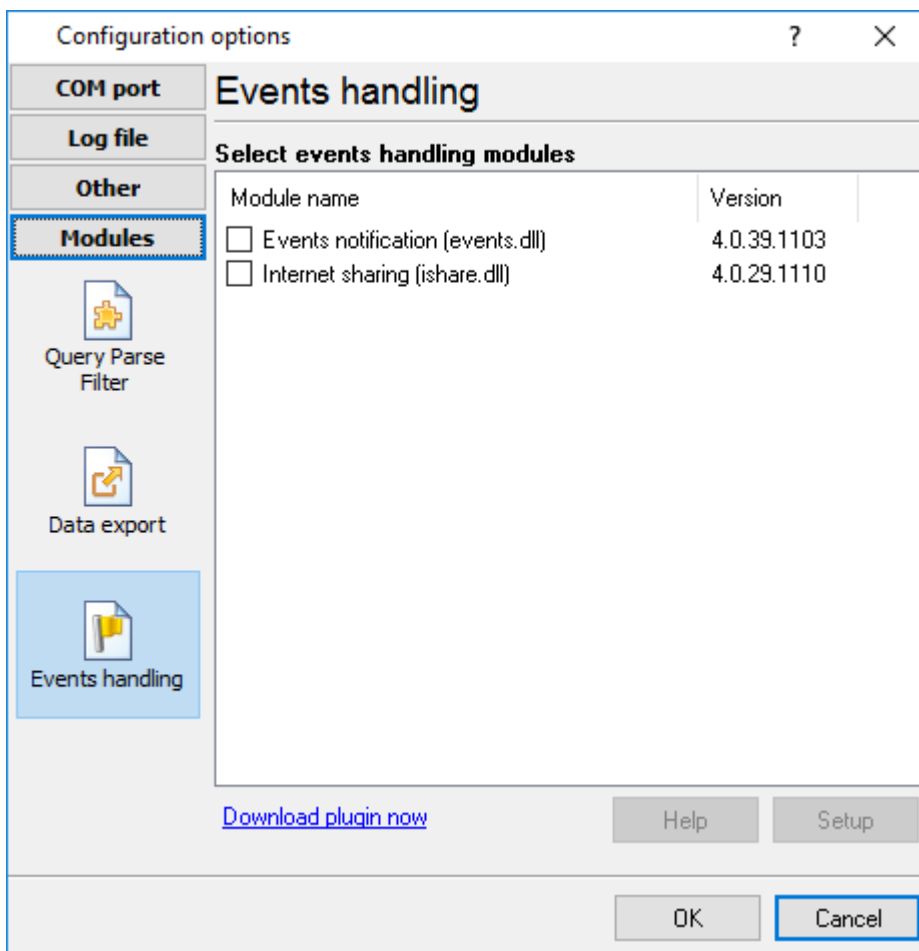

Fig. 22. Activating events handling plugins
- **Data export** (fig. 22) - GPS Tracker Data Logger has many modules and method for passing data to other applications, for example, there are modules for various databases, file formats (CSV, XML), data interfaces (OPC, DDE, MQTT), and many others.